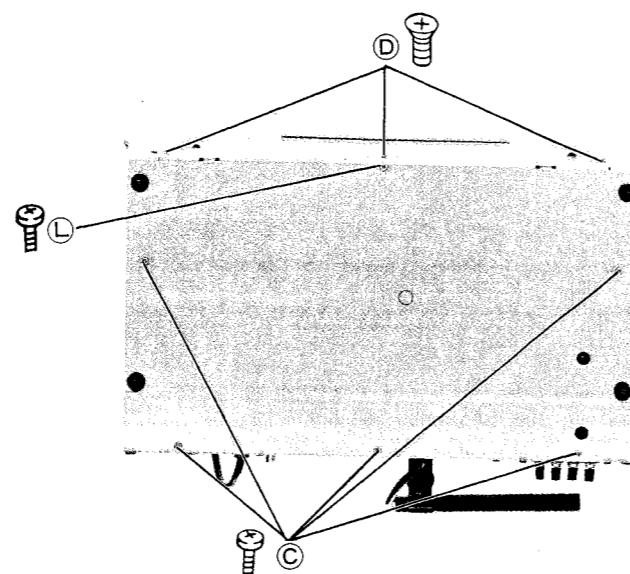

Figure 7
1. Remove five screws (C) (3φ x 8mm) and one screw (L) (3φ x 5mm) holding the bottom plate, then the bottom plate can be removed out. (See Figure 7)
1. Remove six screws (D) (3φ x 6mm) holding the front panel, then the front panel assembly can be removed out. (See Figure 7 and 8).